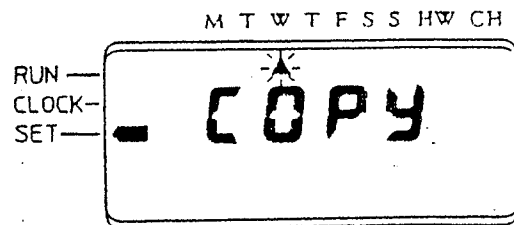

Fig. 10.
- (e) When the 3rd OFF time has been entered, the Programmer will display the word COPY and the DAY OF THE WEEK INDICATOR will flash (Fig. 10).